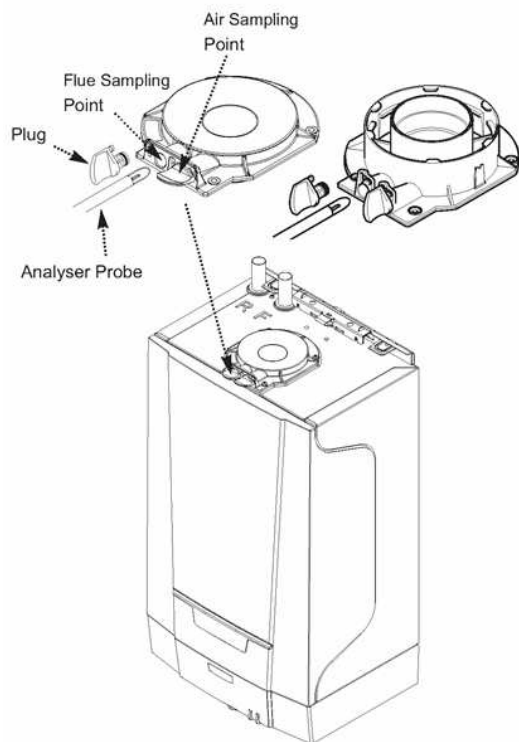

Fig. 42
5. Remove the plug from the flue sampling point (Fig. 42), insert the analyser probe and obtain the CO/CO2 ratio. **This must be less than 0.004**. If the combustion reading (CO/CO2 ratio) is greater than this, and the integrity of the complete flue system and combustion circuit seals has been verified, and the inlet gas pressure and gas rate are satisfactory either:-